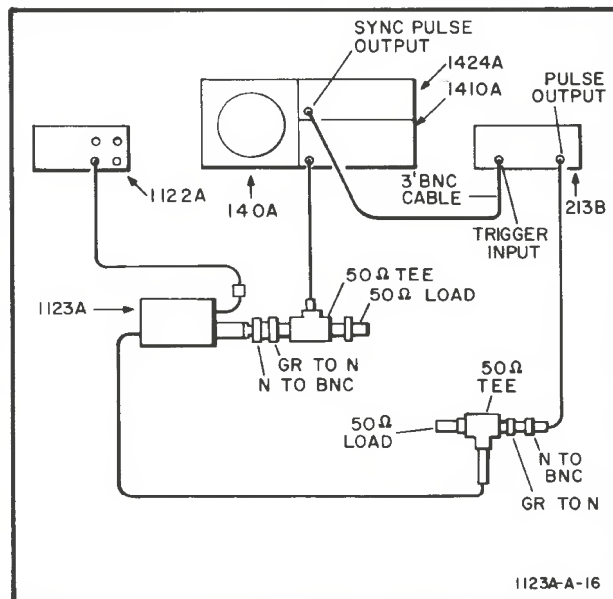

Figure 5-6. Pulse Response Test Set-up
- Connect the equipment as shown in Figure 5-6.
- a. Connect the equipment as shown in Figure 5-6.